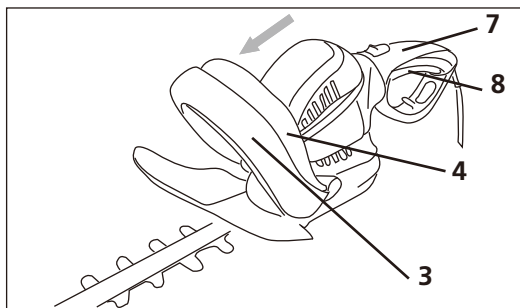

Fig 7
1. Hold the product with one hand at the rear handle (7) and with the other at the front handle (3).
2. Press the on/off switch (8) and the safety switch (4) at the same time (Fig. 7) to switch the product on.